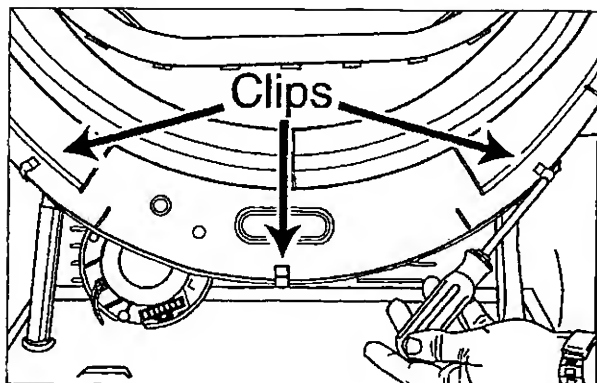

Figure 7-2
3. Using a flat-bladed screwdriver, slide under the clip and pry to remove. Remove the remaining clips from the outer tub cover (*Figure 7-2*).